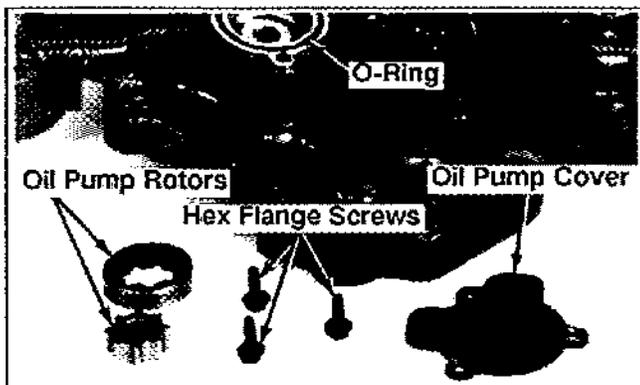

Figure 9-37. Removing Oil Pump.
4. Remove the three hex flange screws, oil pump cover, O-ring, and oil pump rotors. See Figure 9-37.